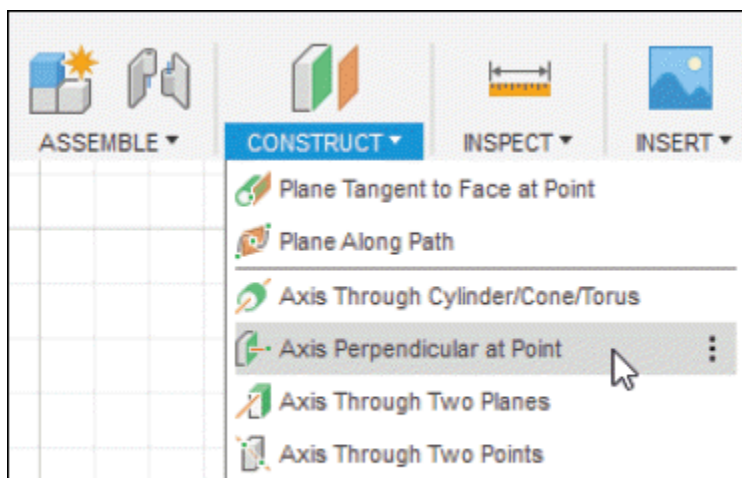
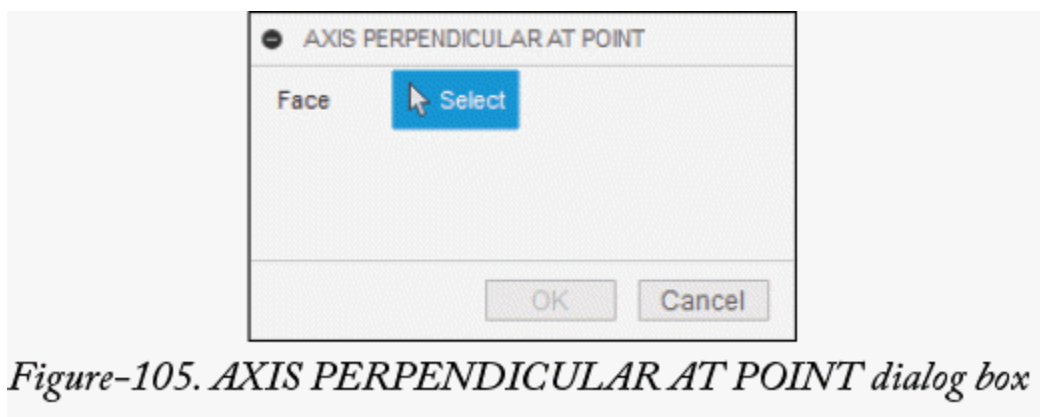

Figure-104. Axis Perpendicular at Point tool
Figure-105. AXIS PERPENDICULAR AT POINT dialog box
- Click on the **Axis Perpendicular at Point** tool of **CONSTRUCT** drop-down from **Toolbar**; refer to Figure-104. The tool will be activated and **AXIS PERPENDICULAR AT POINT** dialog box will be displayed; refer to Figure-105.